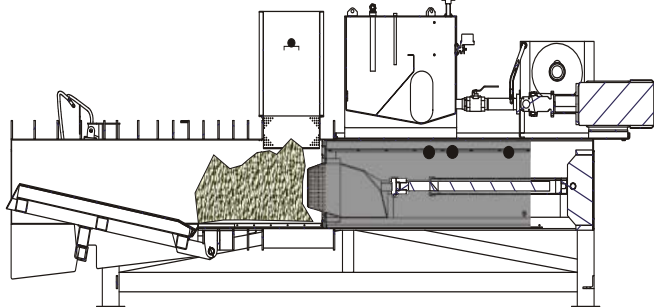

Figure 26 - Plunger Retracts, Product Falls Into Chamber
3. **PRODUCT FALLS INTO CHAMBER** Plunger retracted and the product falls into the chamber. PROX 4, PROX 3 and PROX 2 activated (see Figure 26 page 12).
3. **PRODUCT FALLS INTO CHAMBER** The plunger retracts and the product falls into the chamber. The plunger is fully retracted. PROX 4, PROX 3 and PROX 2 are activated (see Figure 26).